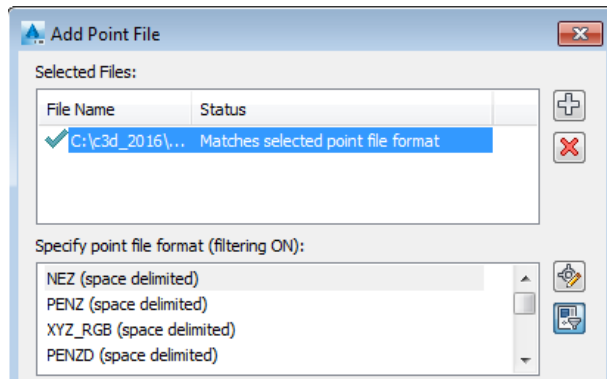

Figure 3-57 Partial view of the **Add Point File** dialog box
3. Choose **Add** from the shortcut menu; the **Add Point File** dialog box is displayed, as shown in Figure 3-57.
6. Browse to the folder *c03_c3d_2016_tut* and select the *c03_c3d_2016_tut01- PENZD* text file. Choose the **Open** button; the file name and path is displayed in the **Selected Files** list box, refer to Figure 3-57.